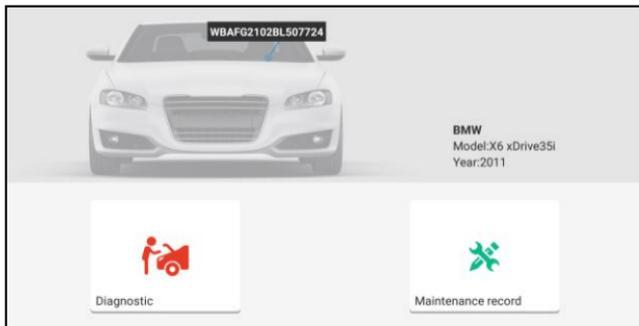

Fig. 5-5
- A. If the VIN can be found from the remote server database, a screen similar to Fig. 5-5 displays: